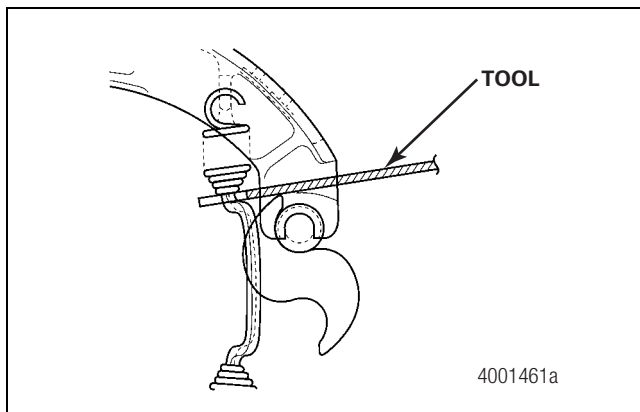

Figure 4.19
8. Use a brake spring tool to install the shoe return spring on the brake shoes. Figure 4.19.